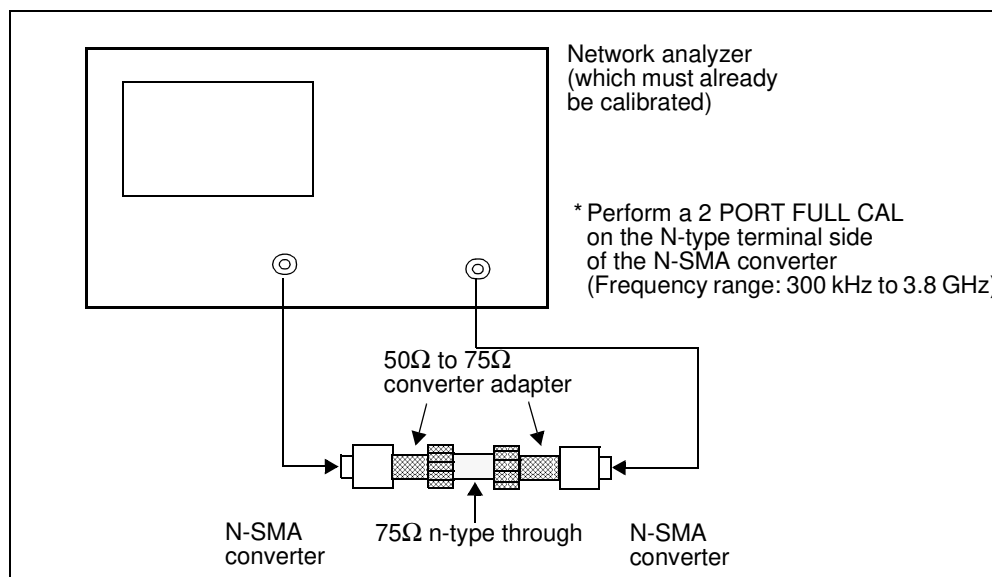

Figure 10-3 50Ω to 75Ω Conversion Adapter
- ① Measure the frequency characteristic of the 50Ω to 75Ω conversion adapter as shown in Figure 10-3.